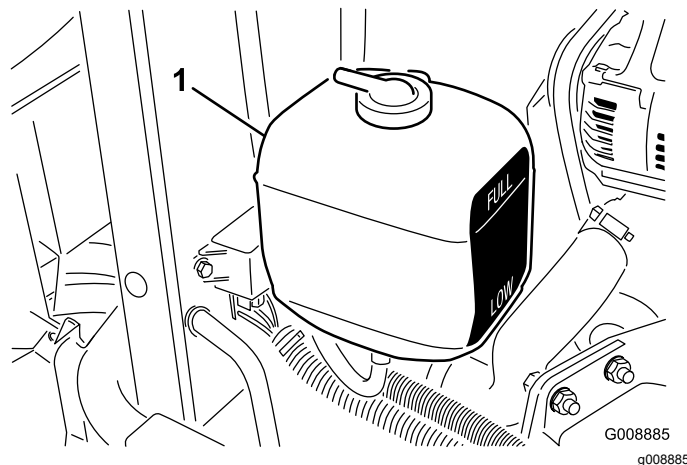

Figure 57
2. Check the coolant level in the expansion tank (Figure 57). With a cold engine, the coolant level should be approximately midway between the marks on the side of the tank.